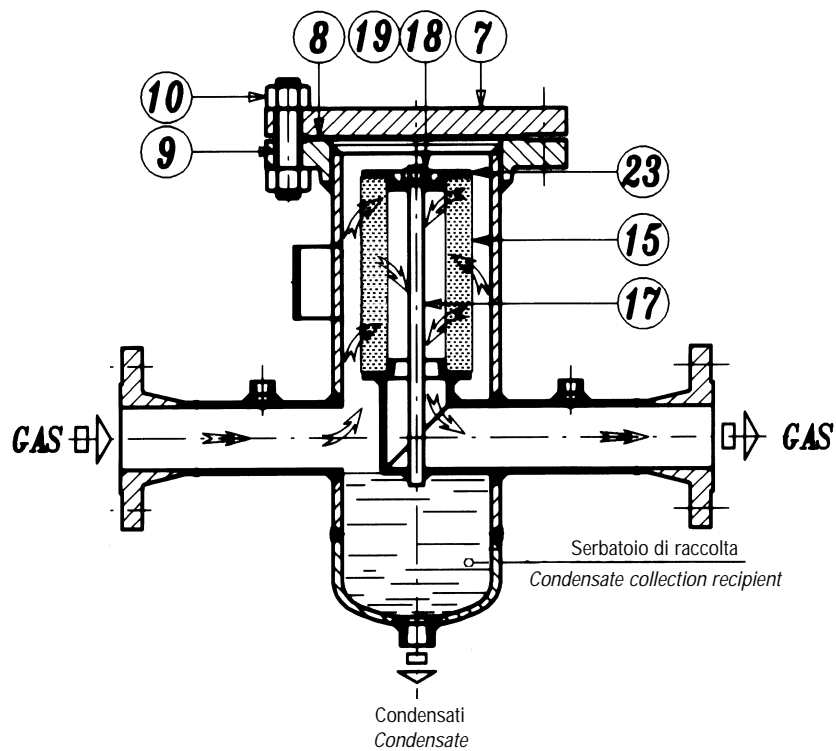

Fig. 2
1.3 CHIUSURA DELLA TESTATA CON FLANGIA (FIG. 2)
1.3 CLOSURE OF THE HEAD BY FLANGE (FIG. 2)